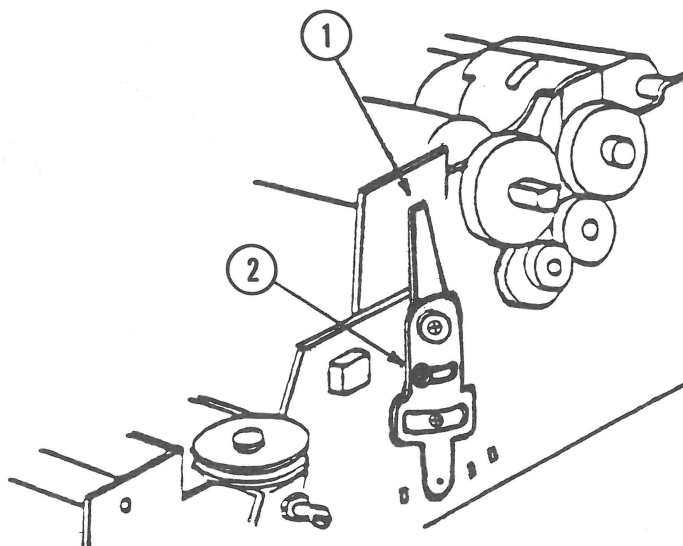

FIGURE 19
2. If the print darkness is uneven, loosen the impression control lever adjustment screw (Figure 19, #2), and move the impression control lever (Figure 19, #1) until the print darkness is equal at the top and bottom of characters. Tighten the screw when the adjustment is complete.